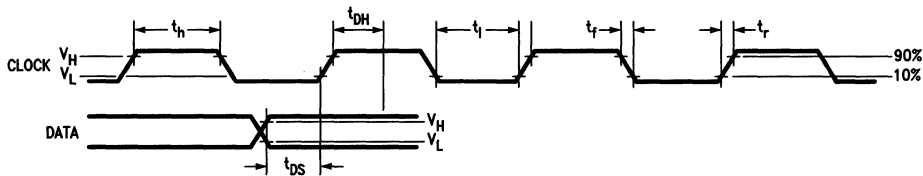

FIGURE 3
*Figure 3* shows the timing relationships between data and clock. A maximum clock frequency of 0.5 MHz is assumed. For applications where a lesser number of outputs are used, it is possible to either increase the current per output, or operate the part at higher than 1V  $V_{OUT}$ . The following equation can be used for calculations.